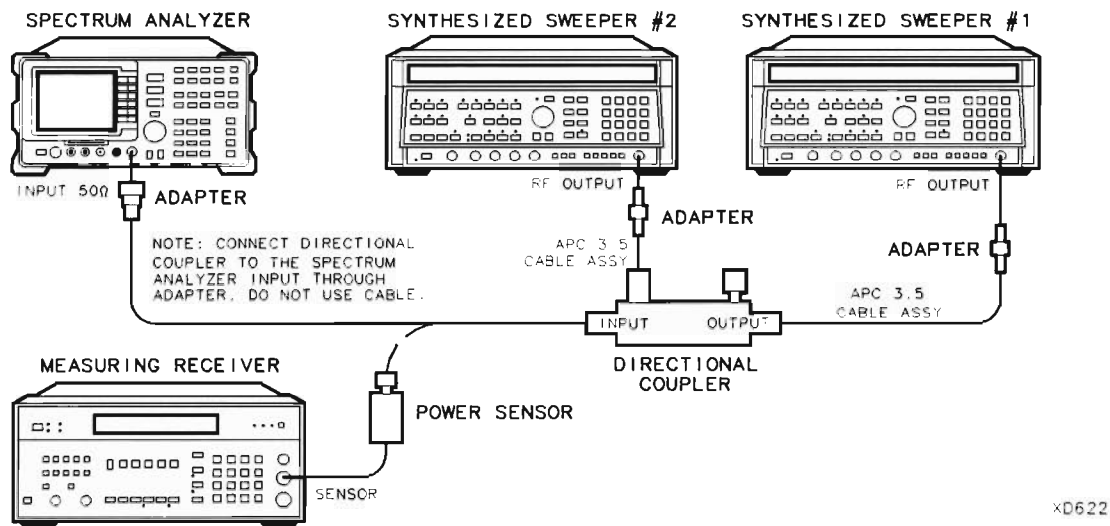

Figure 2-58. Third-Order Intermodulation Distortion Test Setup
35. Connect the equipment as shown in Figure 2-58 with the input of the directional coupler connected to the power sensor.